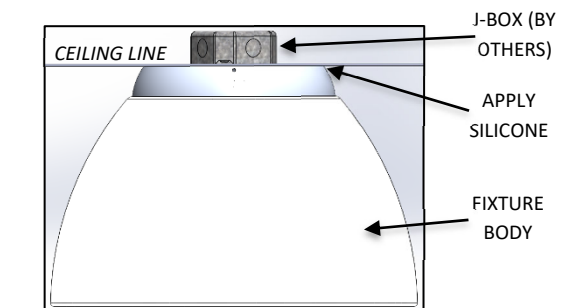

FIG. 11 – SILICONE INSTALLATION
- For outdoor fixtures (C10A) only: Apply outdoor rated silicone in a continuous bead around the circumference of the fixture where the fixture meets the ceiling as shown below in FIG. 11. **DISCLAIMER: FAILURE TO DO SO WILL VOID ALL WARRANTIES**